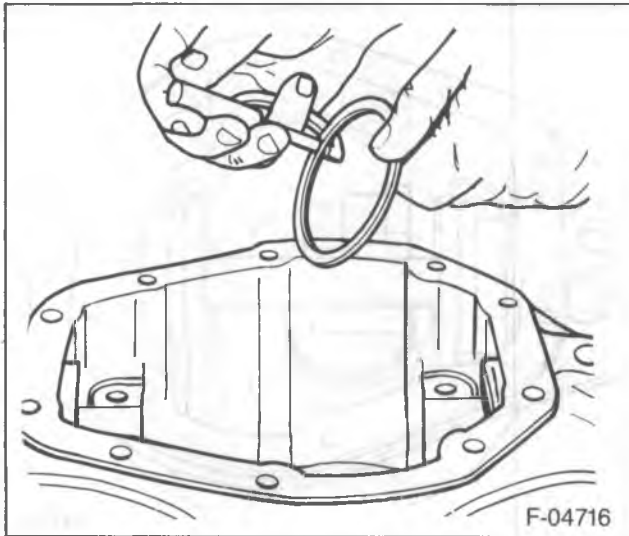

Figure 68—Measuring the Shims
- A pinion etched zero (0) will use the nominal setting as determined in this procedure.
9. Measure each shim separately with a micrometer and add them together to obtain the total shim pack thickness. If a baffle (5) or slinger is used, these must also be measured and included in the shim pack (figure 68).